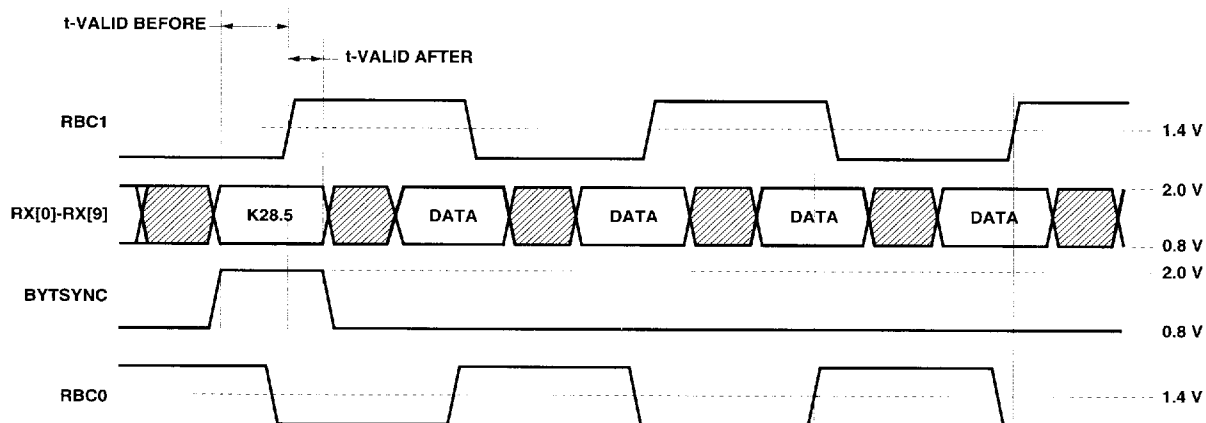

Figure 5. Receiver Section.
4. The receiver latency, as shown in Figure 5, is defined as the time between receiving the first serial bit of a parallel data word (as defined as the first edge of the first serial bit) and the clocking out of that parallel word (defined by the rising edge of the receive byte clock, either RBC1 or RBC0).